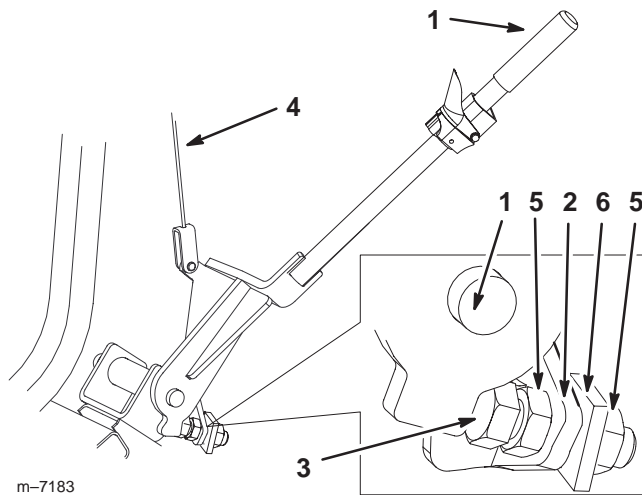

Figure 10
1. Loosen the nuts on both sides of the stop bracket (Fig. 10).
2. Adjust the stop bolt until there is **no** slack in the bagger cable (Fig. 10).
3. Tighten the nuts on both sides of the stop bracket (Fig. 10).